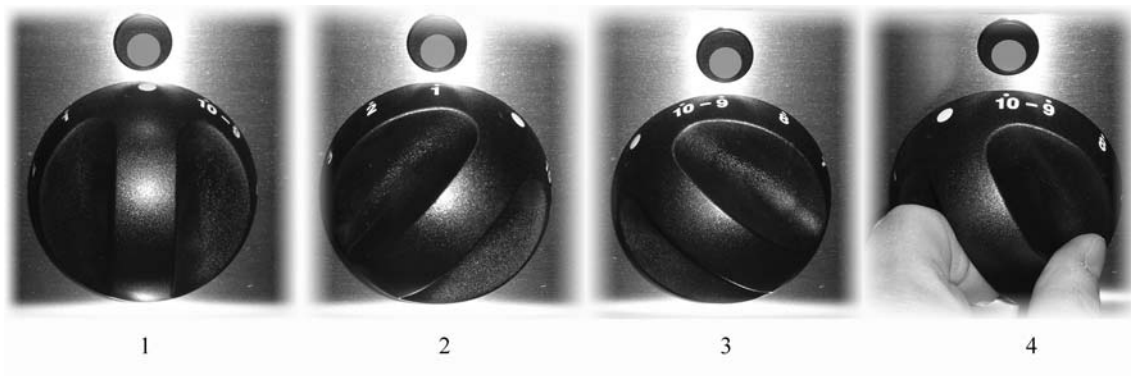

Fig. 3
- power adjustment from minimum to maximum (item 3 and item 4 in Fig. 3);
By turning the knob further, for a few seconds, until it reaches (pos. 4 in Fig. 3), the selected zone reaches maximum heat thanks to the second heating element switching on.